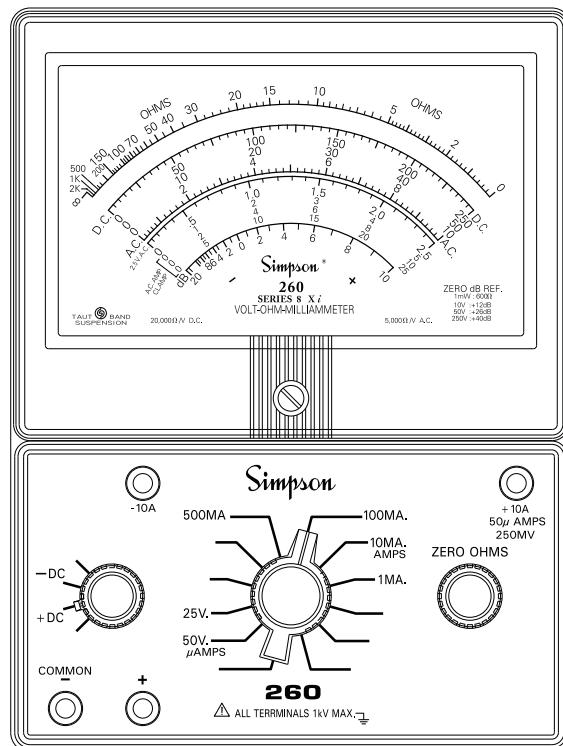

Figure 4-11. Jacks and Switch Positions for Measuring Direct Current
- a. Set the function switch at +DC (Figure 4-11).